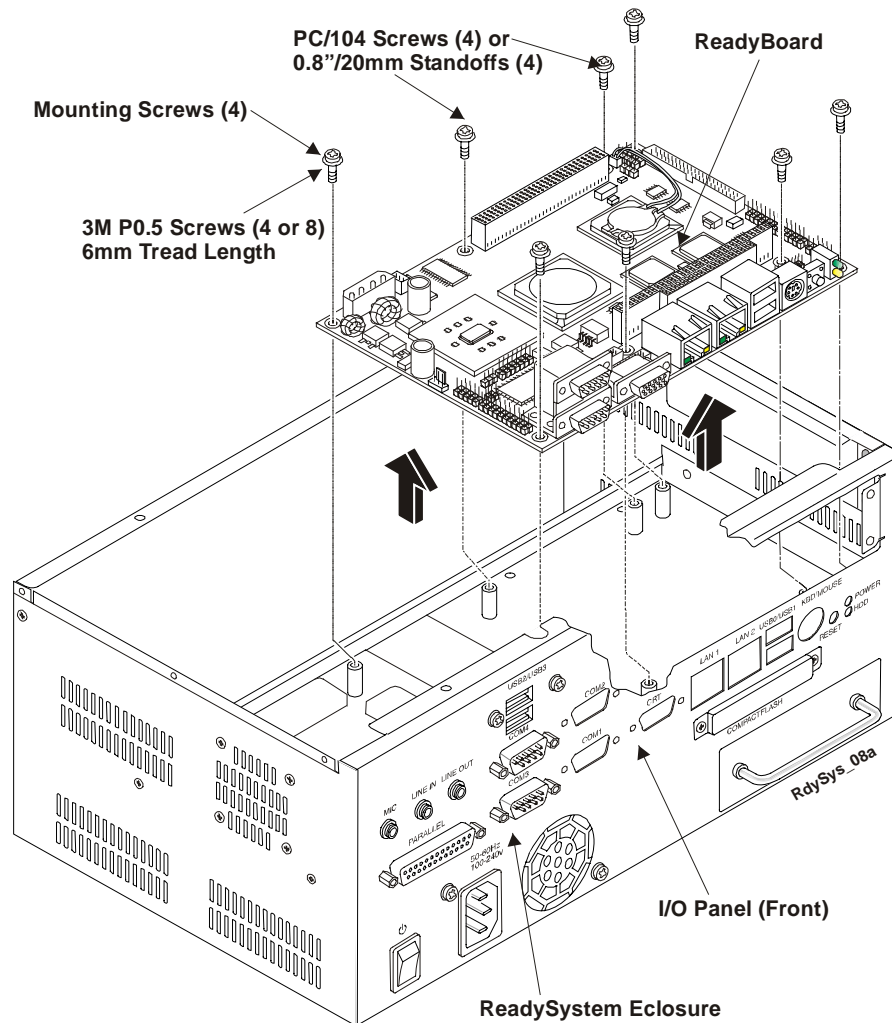

Figure 4-5. Removing the Screws and the ReadyBoard
8. Remove the four to eight screws holding the ReadyBoard to the inside of the enclosure. See Figure 4-5.
9. Once you have removed all of the screws (and PC/104 boards) slowly work the ReadyBoard out of the enclosure until it is safely clear and place it on a protective surface. See Figure 4-5.